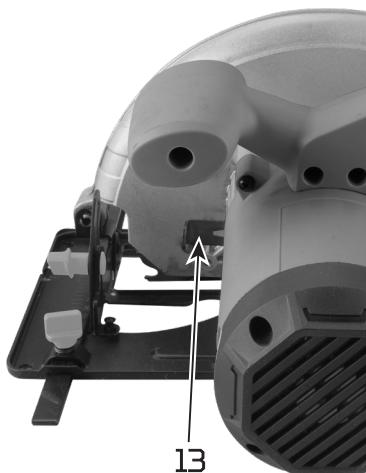

Fig.3
2. Push the spindle lock button [13] toward motor housing as the arrow shows in fig. 3 and firmly hold it.